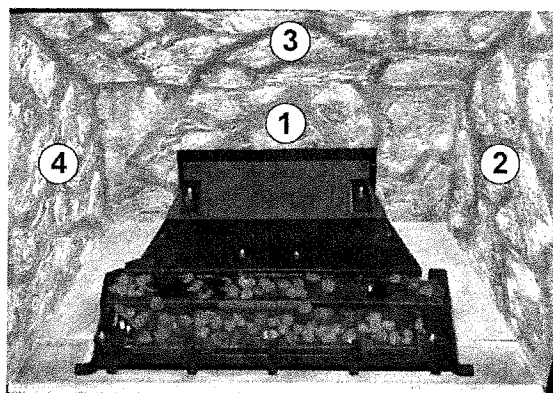

Figure 6.9 Install the Fieldstone panels in the order as numbered.
3. Install the Lower Rear Panel. Push the panel all the way back, centered against the firebox wall. Fig. 6.9.